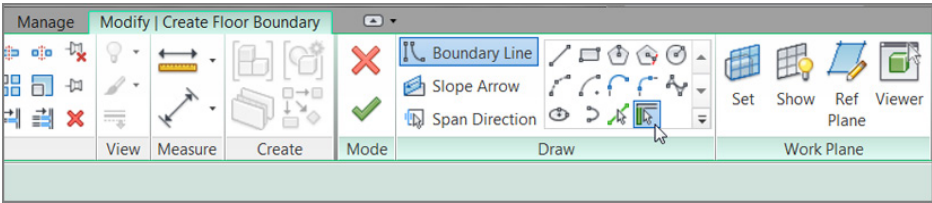

FIGURE 6.8: Picking walls ensures that that edge of your slab will move if the wall moves.
The best way to add a slab is to use the Pick Walls button as much as possible (see Figure 6.8). In doing so, you tell Revit that this edge of slab needs to move if this wall moves. Pick Walls is the default Draw option.
- 1. In the Modify | Create Floor Boundary tab, click the Pick Walls button, as shown in Figure 6.8, if it isn't already picked.